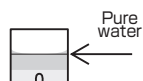

Fig.1
3. Fill the cell up to the line (1.5 mL) with pure water. (Fig.1)